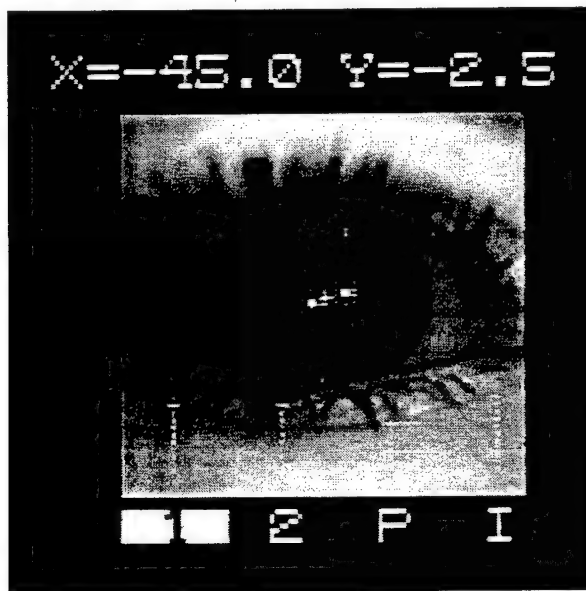

Figure 9. Manual Start (**M-STR**) Display Mode
3. Press **M-STR** again. A picture very similar to what is shown in Figure 9 will appear. The numbers 1 and 2 along with a respective line of dots represent the intensity of each emitter.